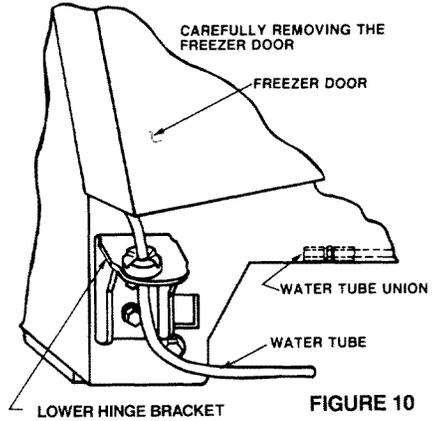

FIGURE 10
8. The freezer door water line will thread through the bottom hinge. Lift the door off carefully. See Figure 10.